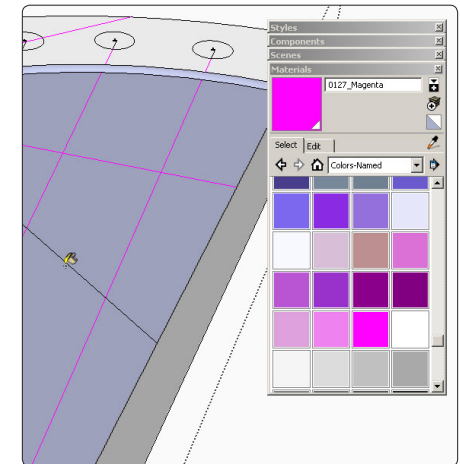

Figure 8. Use the Paint Bucket Tool to color each line you want in a second color.
Step 2 Open the Materials dialog box and choose a color. Click on the paint chip in the upper-left-hand corner of the dialog box. Open a component for editing and use the Paint Bucket Tool to paint each line or edge you want in the second color (Figure 8). You will have to zoom in close to efficiently paint each line segment. If you click on a face of the component by accident, use the Undo function and try again.